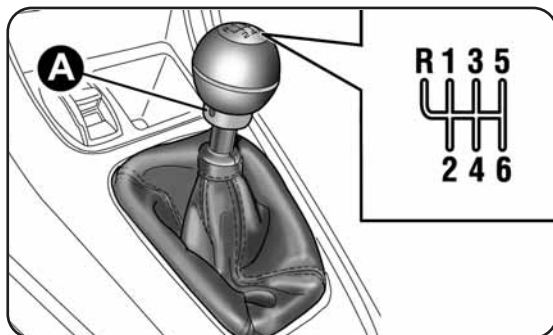

fig. 111
To engage the gears, press the clutch pedal down fully and shift the gear lever into the required position (a diagram is shown on the knob fig. 111).
To engage reverse gear (R) from the neutral position, lift up ring A-fig. 111 and simultaneously move the lever to the left and then forwards.